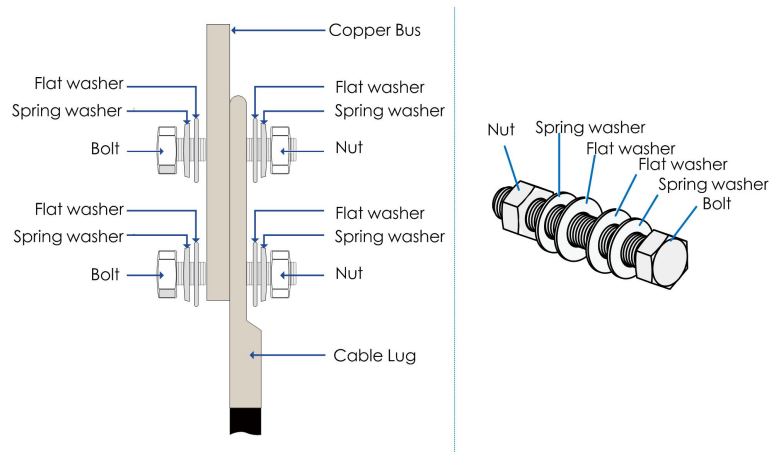

figure 5-4 Copper wire connection
step 4 Secure the OT terminal to the wiring hole by M5 bolt with a tightening torque of 4~4.8 N·m. (For detailed wiring procedure, please refer to “figure 5-4 Copper wire connection”.